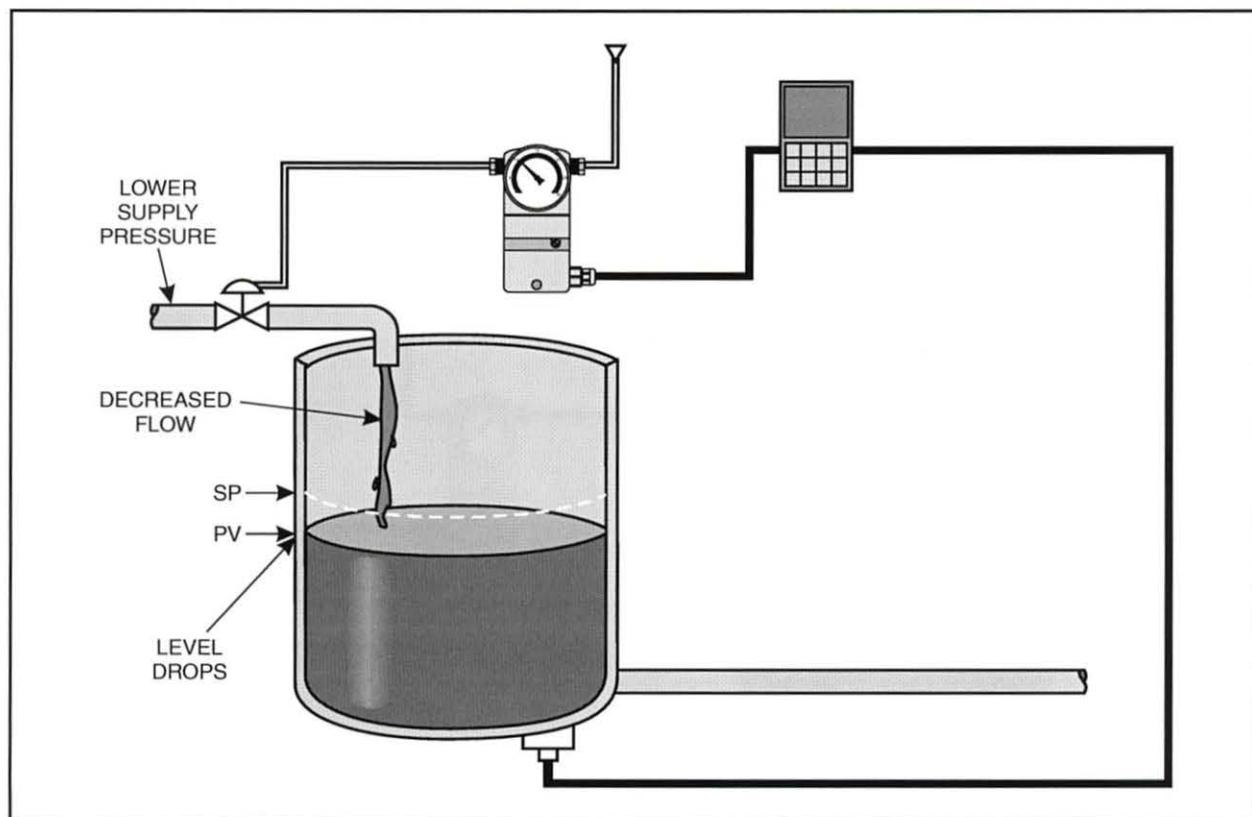

Figure 40. Effects of a Flow Decrease Supply Disturbance on Level Control
If the supply disturbance causes a decrease in flow into the tank, as shown in figure 40, the level (PV) starts to drop below the SP because the flow rate out of the tank is greater than the flow rate into the tank. A decrease in the pressure at the valve inlet can cause this type of disturbance.